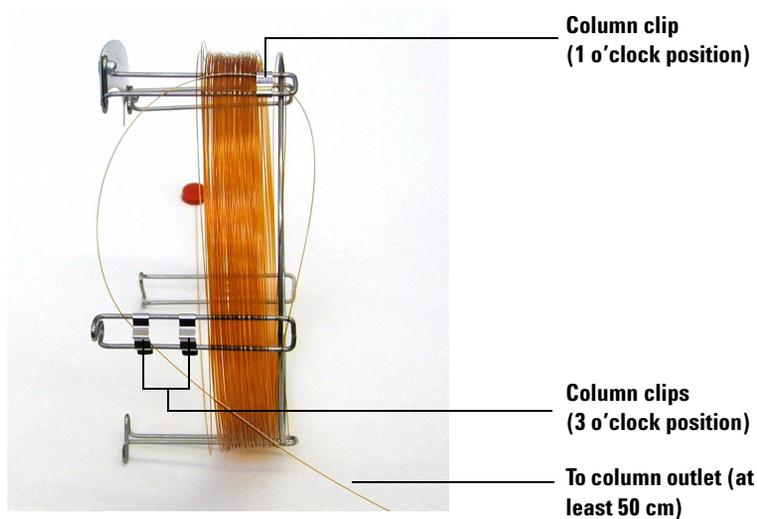

Figure 11 Column fed through 3 o'clock position.
- Next, feed the outlet side of the column through the 3 o'clock positioned clips so that the column outlet is pointing toward the back of the column cage. Make sure that the part of the column that is between the two clips does NOT extend above the column label. See Figure 11.